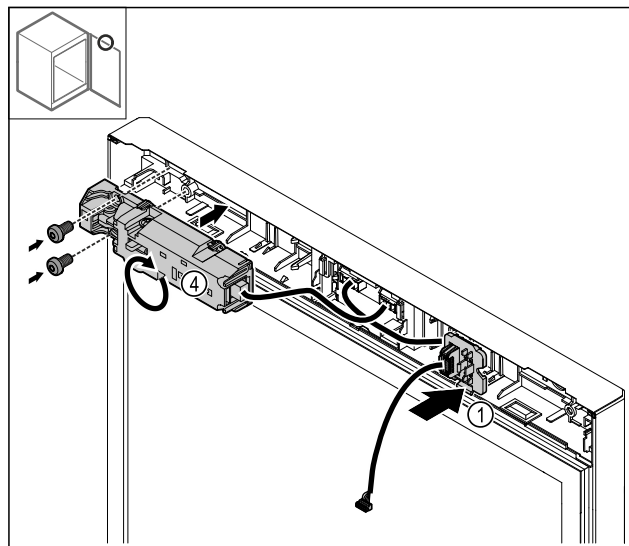

Fig. 29
- Engage the plug holder Fig. 29 (1) on the opposite side.
- Turn the electrical lock Fig. 29 (4) by 180° and attach on the opposite side.